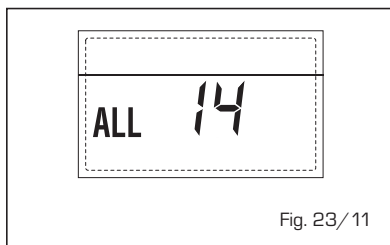

Fig. 23/11
- **"ALL 15" FAN ERROR (fig. 23/12)**